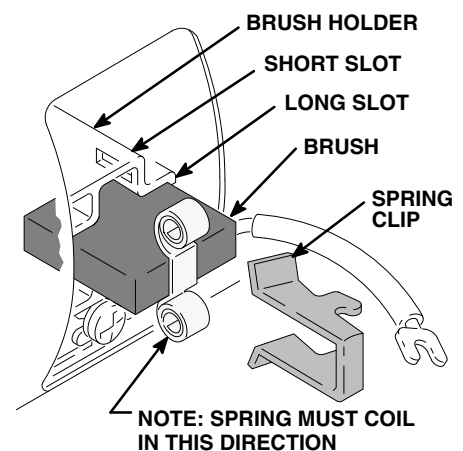

Fig. 13
6. Install a new brush so the lead is in the long slot of the holder. See Fig. 13.
8. Place the spring on the brush as shown in Fig. 13.
9. Install the spring clip and push it down to hook the short slots in the housing. See Fig. 13.